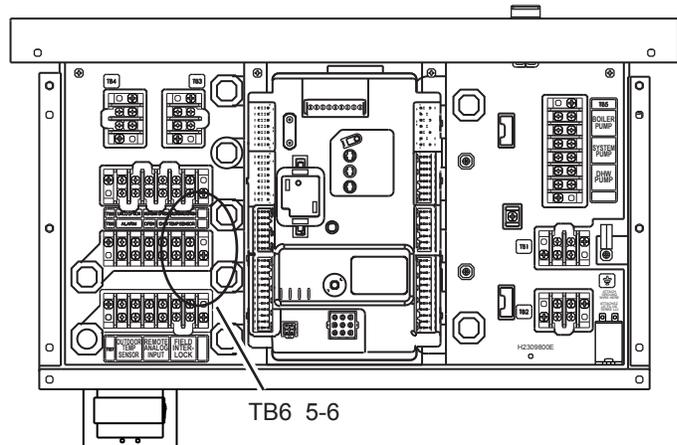

Fig. B1-3 - Simulating a “Call for DHW” input
6. If this unit is set up to use a separate DHW signal – Insert a jumper across terminals 5 and 6 on TB-6 on the control board. See Fig. B1-3. This will create a permanent “Call for DHW” signal. (Again, remember to remove this when you are through.)